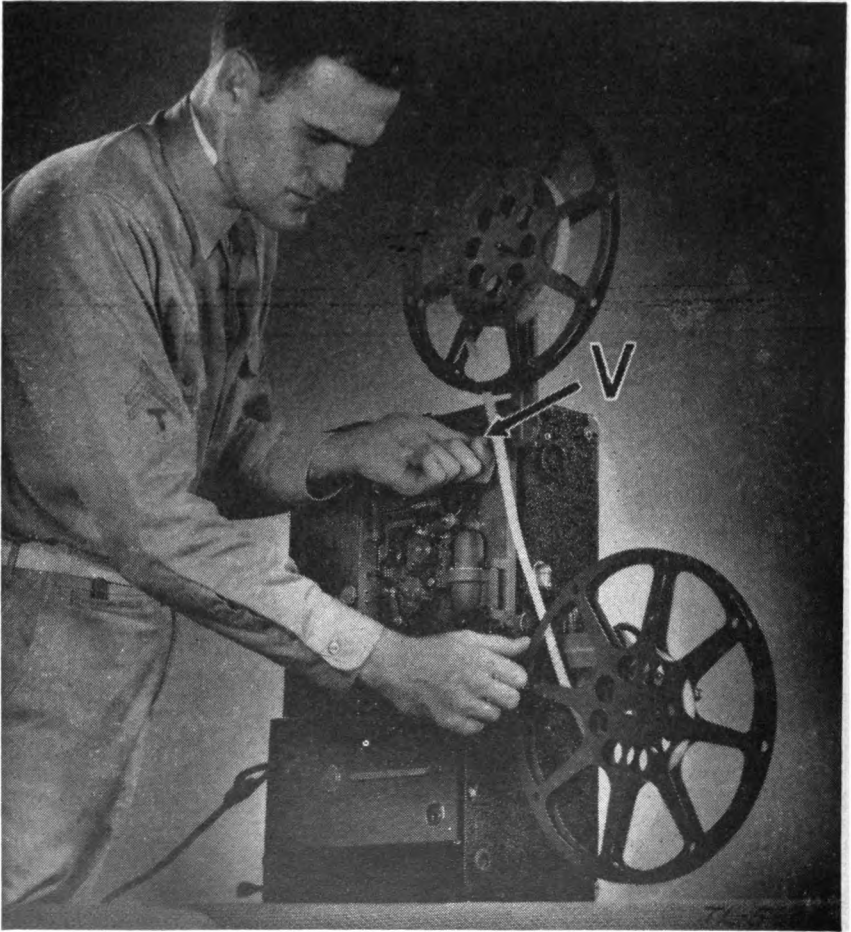

FIGURE 23.—Rewinding *R. C. A.* projector.
(4) *R. C. A.*—To rewind the *R. C. A.* projector, loop the free end of the film around the feed reel, turn rewind switch *V* to “Rewind” position, and start projector motor. (See fig. 23.)